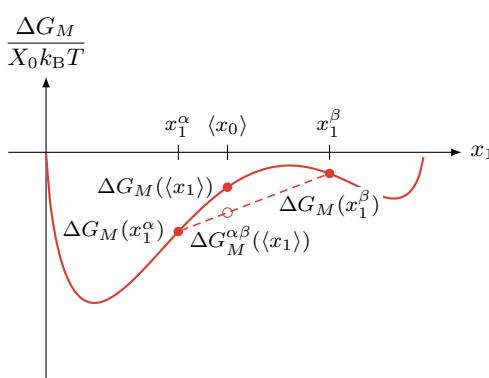

Figure 2.22: Tie lines predict the favorability of demixing.
- Therefore, if the tie line lies above the curve, demixing will raise the energy of the system and will not occur. If the tie line lies below the curve, demixing will lower the energy of the system and will occur. As such, with the choices of  $\langle x_1 \rangle$ ,  $x_1^\alpha$ , and  $x_1^\beta$  in Figure 2.22, mixing will occur.